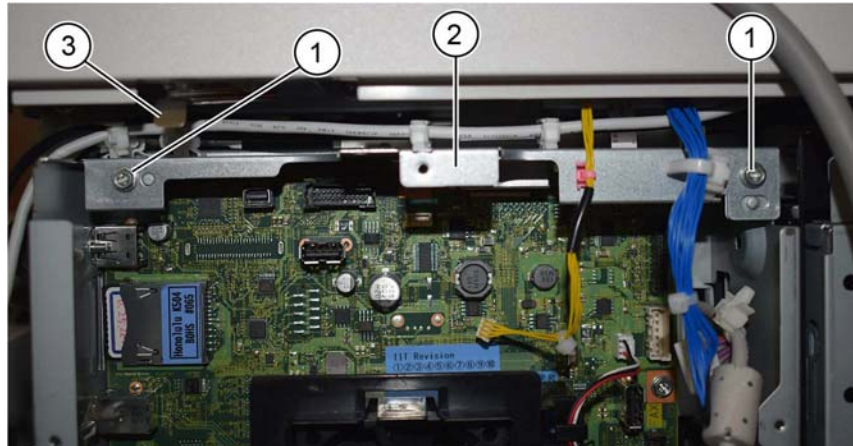

Figure 9 ESS upper panel removal
12. Remove the ESS upper panel, **Figure 9**:
- a. Remove both screws (1).
- b. Remove the ESS upper panel (2).